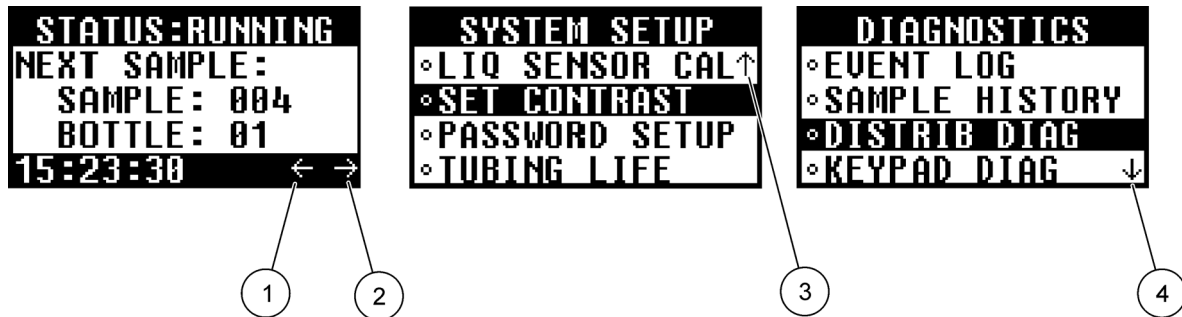

Figure 25 Screen navigation
Use the controller to access all sampler operations. Use the **ARROW** keys, **ENTER** key and **BACK** key to move from one screen to another. An arrow on the display indicates that more screens are available (Figure 25).
3. Note the down arrow on the bottom of the display (Figure 25). Press the down arrow until additional options are shown.